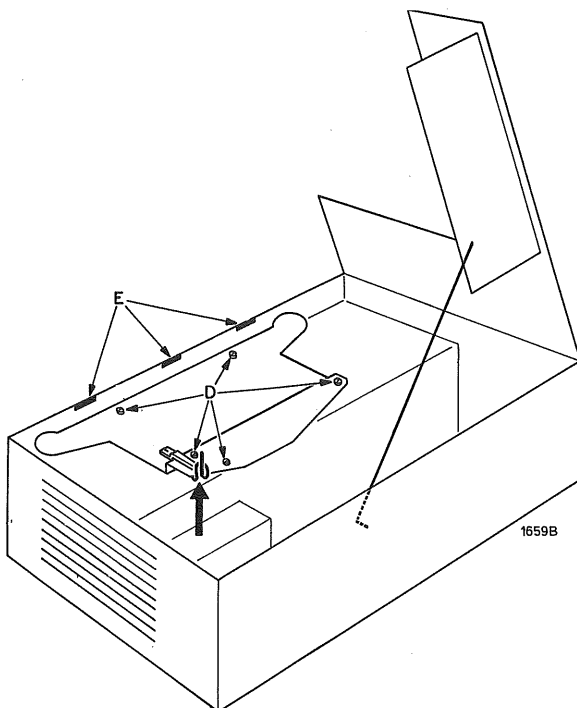

Fig. 2
To prevent vibrating of the covering plate three rubber strips E have been fitted on the rearmost ornamental frame. These must be kept in position when the covering plate is refitted. (see Fig. 2).
- After removing the 4 screws B the complete amplifier board can be hinged to the right (first it should be lifted slightly). The board can be locked in the hinged up position by means of the hook which is clamped to the bottom of the cabinet. For this, the hook is hooked into the hole in the heatsink of the output transistors (see Fig. 2).